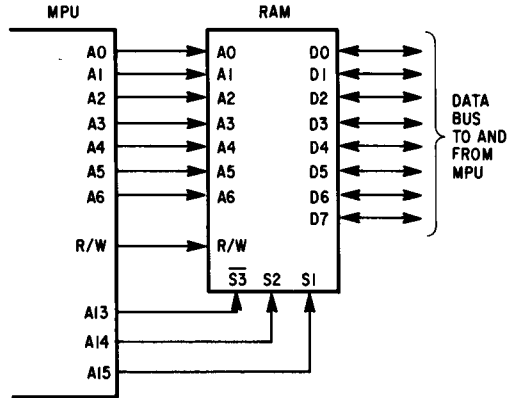

Fig. 5.5 MPU connections with RAM
The relationship between the MPU and the RAM is illustrated in Fig. 5.5. The R/W line shown is a signal line from the MPU to inform external devices that the MPU wants (1) to read data, if this line is high, or (2) send (write) data, if it is low.
To expand on the word selection process of a RAM, let’s assume that the chip selects and word selects are tied to the MPU address bus as shown in Fig. 5.5. If A14 and A15 are put in a high state and A13 in a low state while A0–A6 are in a low state, the contents of memory location 000 0000 will be gated to the data bus if the MPU requests the contents of that location (the R/W line will be high). If the MPU desires to read the contents of location